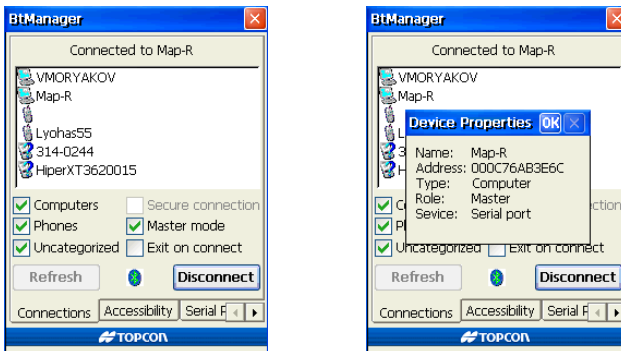

Figure A-5. Connected to Device and Device Properties
Once a connection has been established, the Bluetooth Indicator turns green (Figure A-5). The connection to the module will remain established until you tap Disconnect, even if BTManager is closed.
- To view information on the connected device, double-tap the device (Figure A-5).